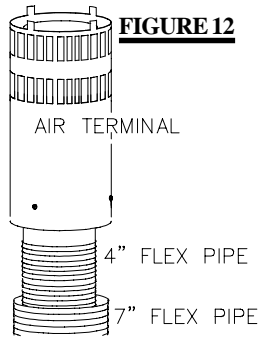

FIGURE 12
3. Repeat using 7" diameter aluminum flexible liner. **FIGURE 12.**